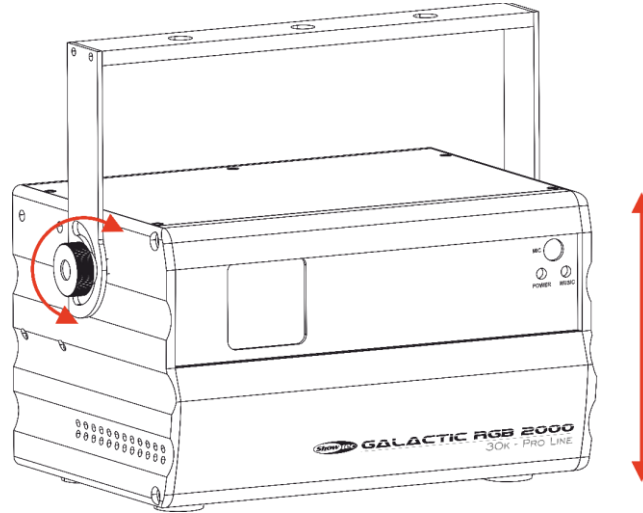

Fig. 10
- 01) Turn the **adjustment screws (04)** counterclockwise to release them.
- 02) Tilt the device at the desired angle (see Fig. 10).
- 03) Turn the **adjustment screws (04)** clockwise to tighten them. Make sure that the device cannot move freely after the **adjustment screws (04)** are tightened.